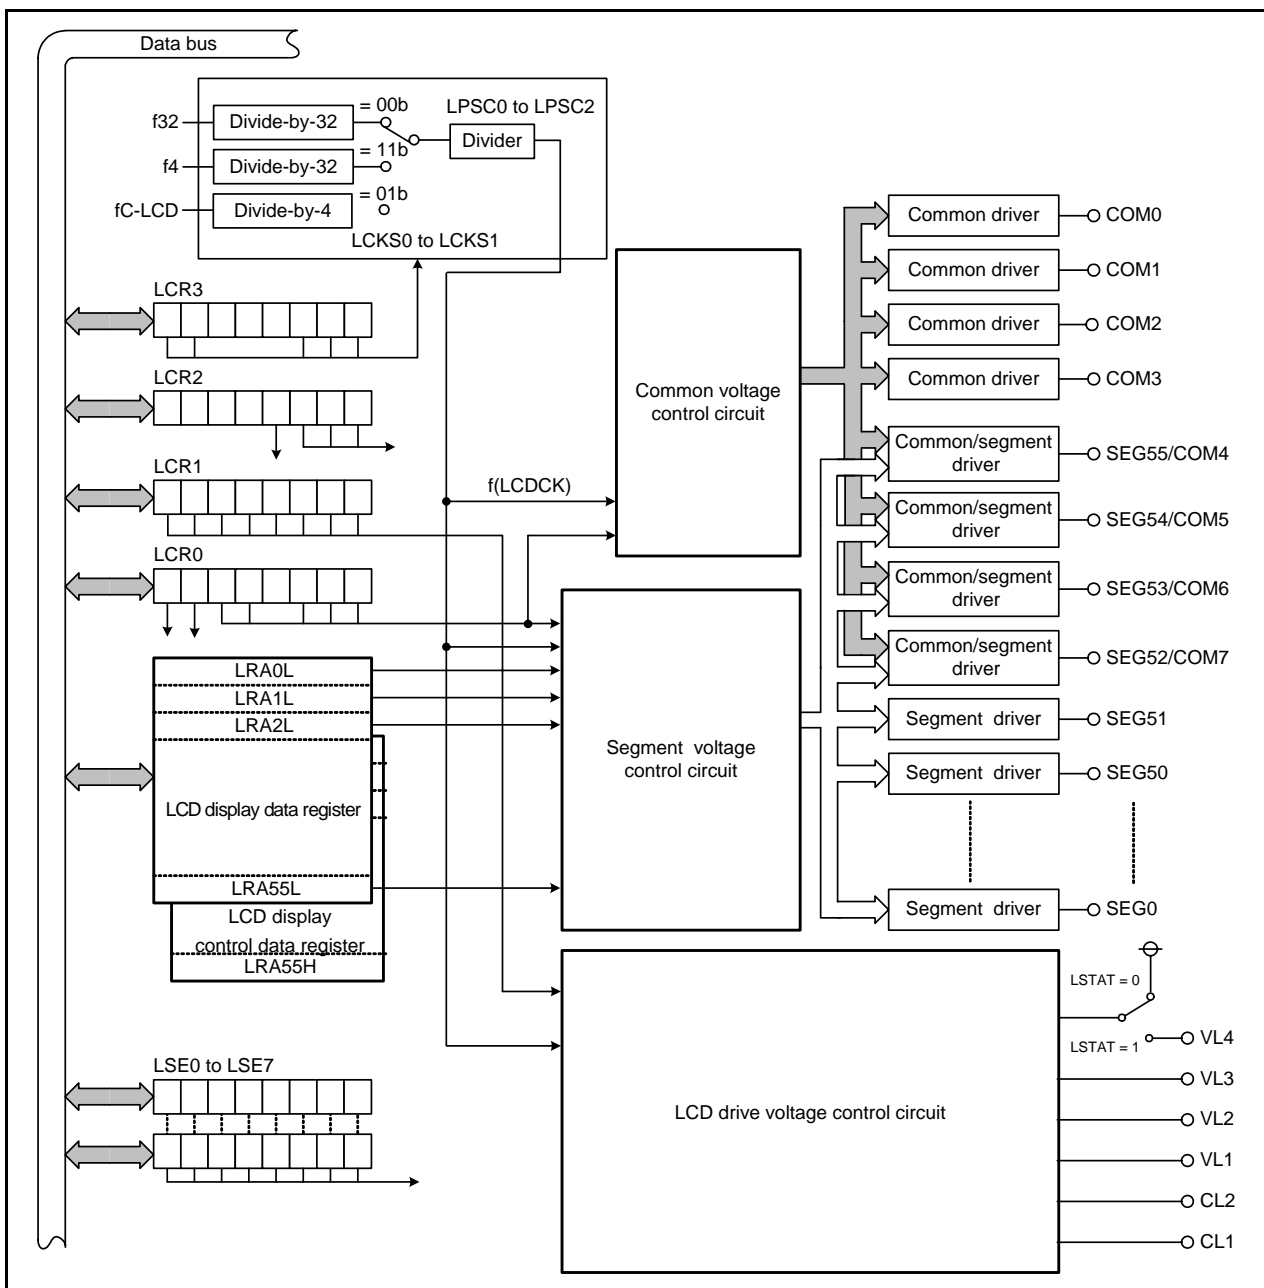

Figure 34.1 Block Diagram of LCD Drive Control Circuit
Table 34.2 lists the Specification Overview of LCD Drive Control Circuit (1) and Table 34.3 lists the Specification Overview of LCD Drive Control Circuit (2). Figure 34.1 shows a Block Diagram of LCD Drive Control Circuit.